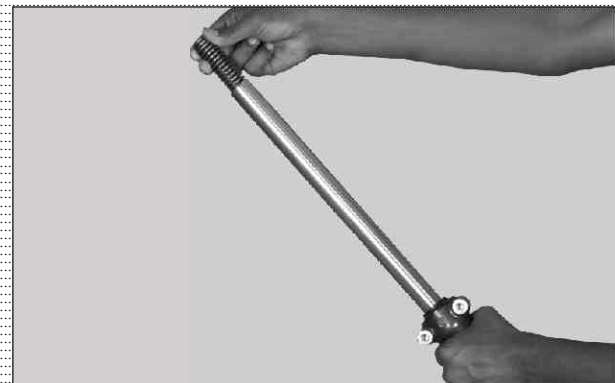

Fig. 6.48
- Install spring front fork with its smaller pitch end facing upward. (Fig. 6.48)